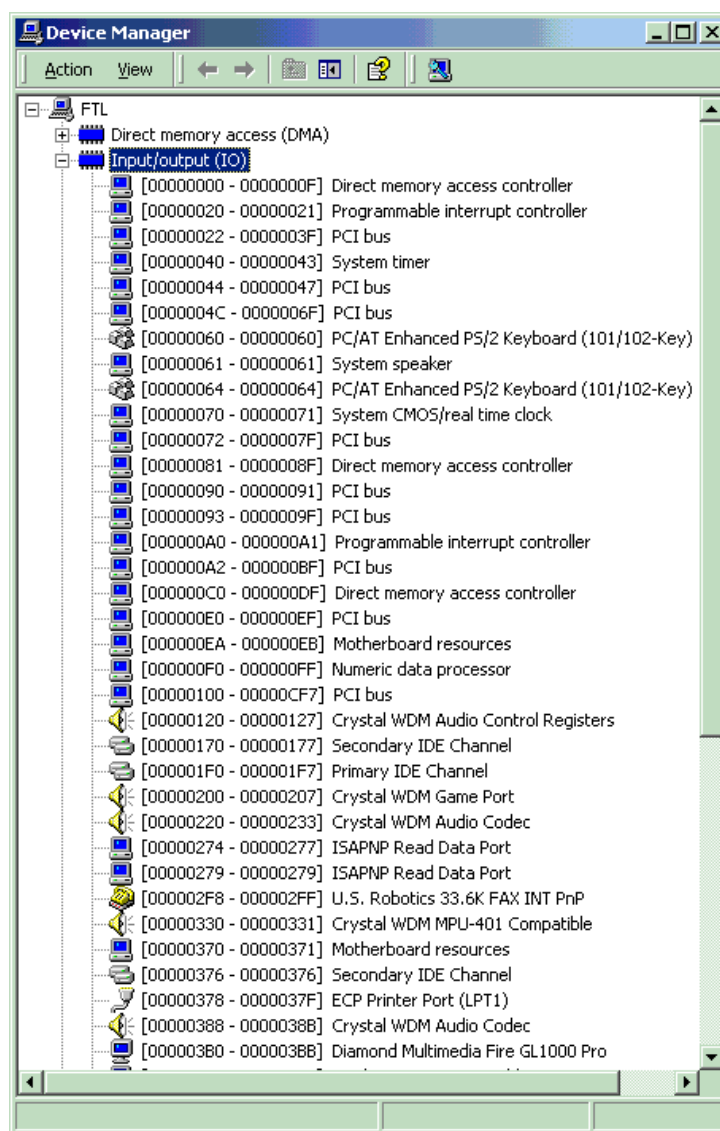

Figure 16. System Resources
3. In the Device Manager window, select the **View** menu. Then click **Resources by Type**. A window opens that shows the system resources (Figure 16).